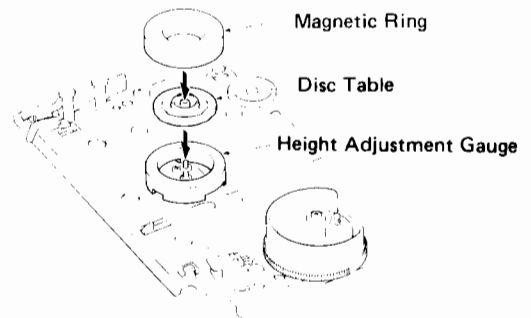

Fig. 7
- c. Install turntable onto motor shaft with magnetic ring installer as shown in Fig. 7.